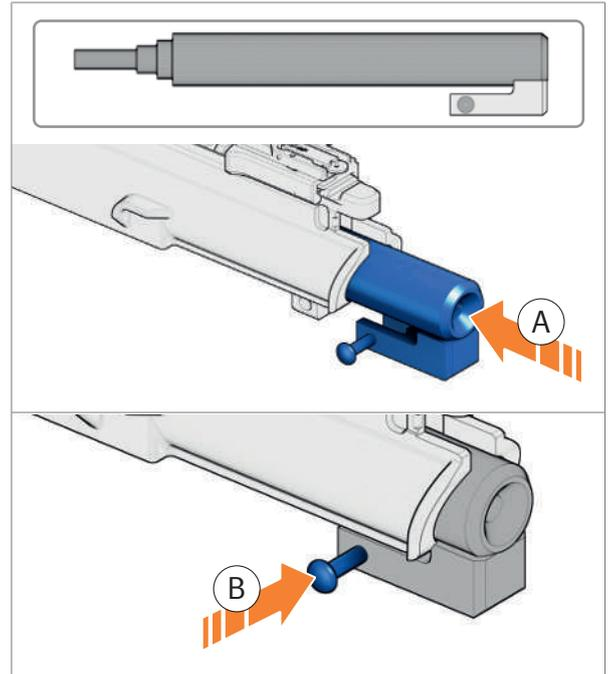

Fig. 106: Insert cleaning rod guide
2. Insert the cleaning rod guide into the upper receiver (Fig. 106).
3. Push the locking pin of the cleaning rod guide completely into the upper part of the receiver (Fig. 106).